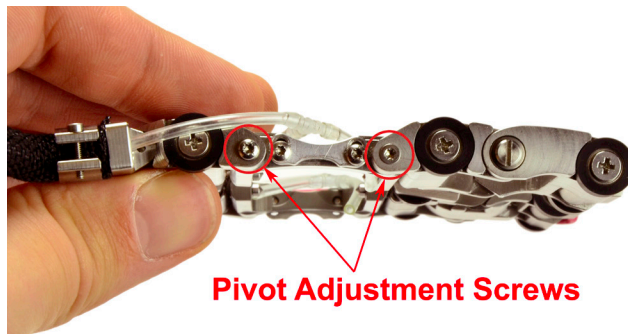
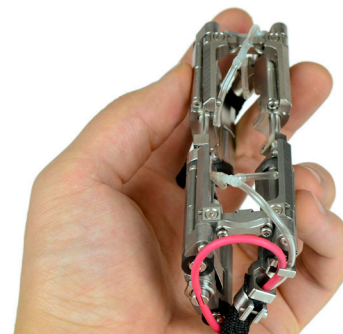

Figure 21 - Loosening Pivot Adjustment Screws
Figure 22 - Fold Scanner in Hand
- b. Loosen pivot adjustment screws (Figure 21) and fold scanner in hand as shown in Figure 22.